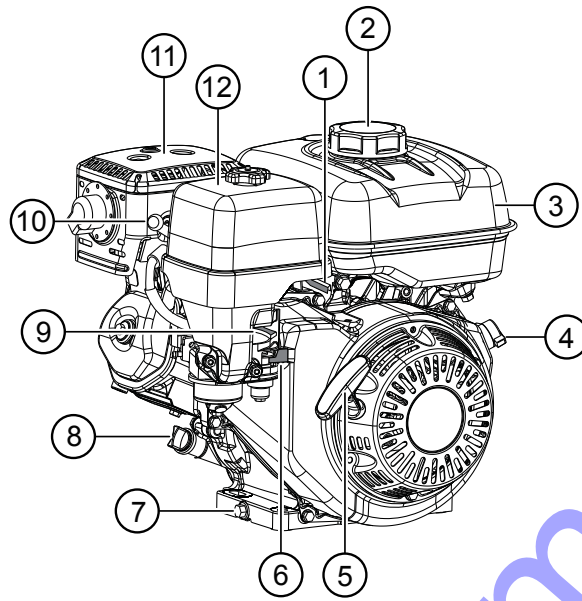

Figure 3. Engine Controls and Components
The engine (Figure 3) must be checked for proper lubrication and filled with fuel prior to operation. Refer to the manufacturer's engine manual for instructions and details of operation and servicing.
- 8. Dipstick/Oil Filler Cap** – Remove this cap to determine if the engine oil is low. Add oil through this filler port as recommended in (Figure 3).